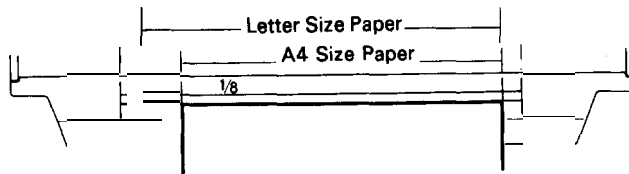

Fig. 25 Setting of Cut Paper Sheet
2. If the paper is set on the line marked  $1/4$  as shown in Fig. 25, then the printing starts from a position 28.6 mm below the top edge of the paper. If the paper is set on the line marked  $1/8$ , then the printing starts from a position 30.2 mm below the top edge of the paper.